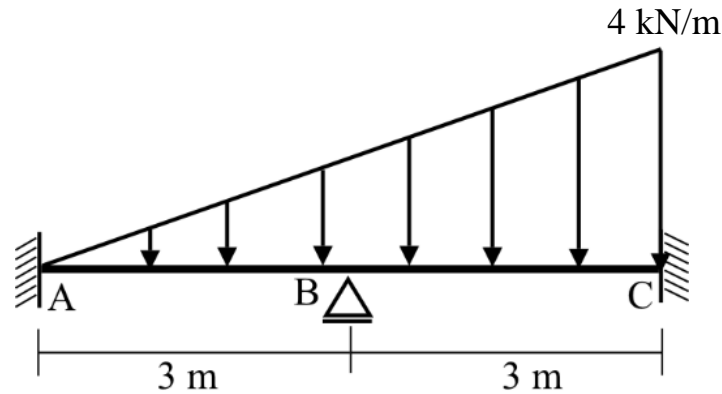

Figure 2 / Rajah 2
2. **Figure 2** shows a beam carrying a triangular distributed load of 4 kN/m on span ABC. Supports A and C are fixed, whereas support B is pinned. Assume EI is constant for the beam.